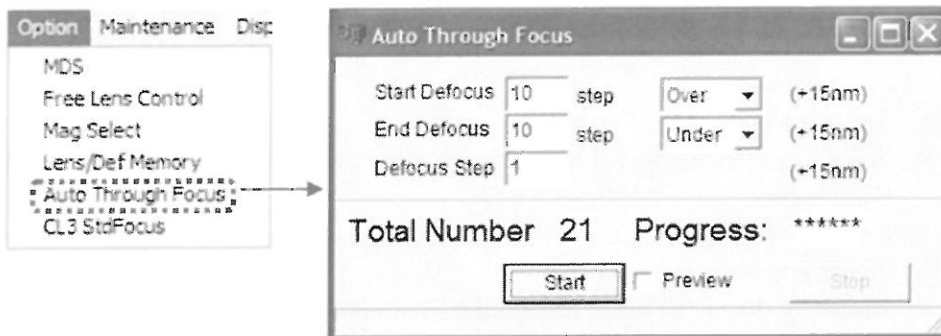

Fig. 5.66 Auto Through Focus window
1. Select **TEM Controller — Option — Auto Through Focus** (Fig. 5.66).
- ✎ Fig. 5.66 shows the settings for photography to be made starting a setting of 10 steps of a 1 notch shift of the OL Fine knob toward the over focus side and continuing to a setting of 10 steps of a 1 notch shift of the OL Fine knob toward the under focus side.